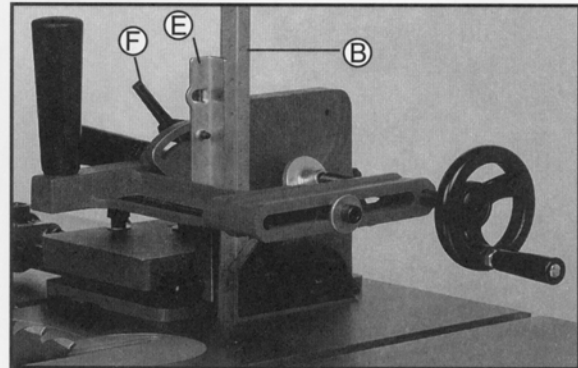

FIGURE 7
4. Using square (B). figure 7. check to see if the face of the backstop (E) is 90 degrees to the saw table if an adjustment is necessary. loosen lock lever (F) adjust backstop (E) accordingly and tighten lever (F).